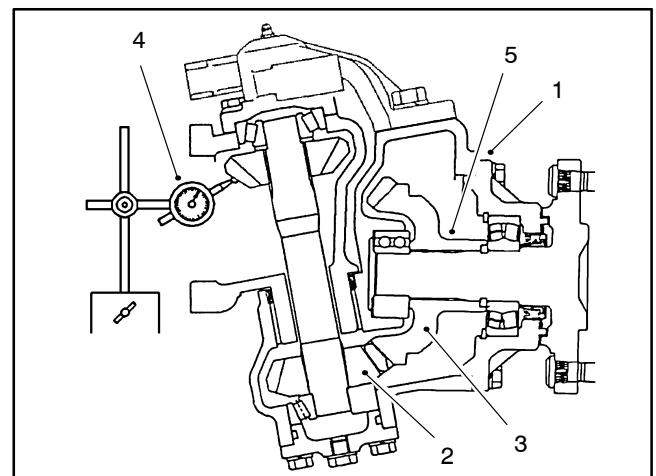

Figure 27
9. Remove the bevel gear case/axle case assembly from the axle support. Coat a new O-ring with grease and temporarily install the axle cover assembly. Position a dial indicator at the tooth's center. Prevent the axle from turning and measure the lower bevel gear to axle gear backlash (Fig. 27).